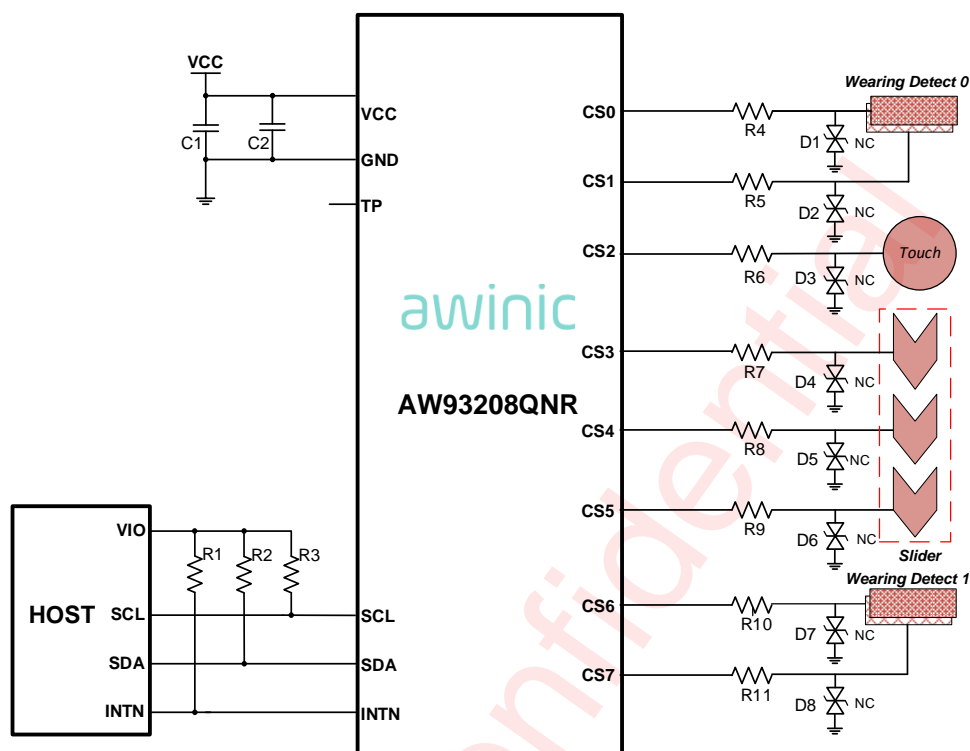

Figure 28 AW93208QNR Typical Application Circuit (touch, wear and slide)
4. Place reference channel(in Figure 28, pins CS0, CS1 and CS6, CS7 as shown) along with sensor channel to get better performance.